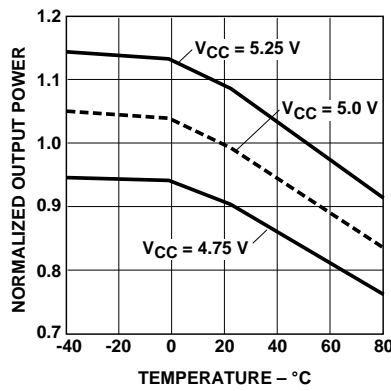

Figure 4. Typical normalized optical power vs. temperature (in recommended drive circuit).
- Minimum and maximum values for  $P_T$  over temperature are based on a fixed drive current. The recommended drive circuit has temperature compensation which reduces the variation in  $P_T$  over temperature; refer to Figures 4 and 6.